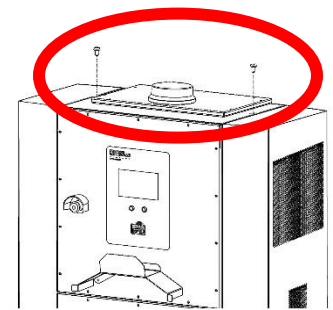

Figure 10b – Eyebolts removed and replaced with plastic screws
5. Remove eyebolts and replace with the plastic screws provided (Figure 10b).